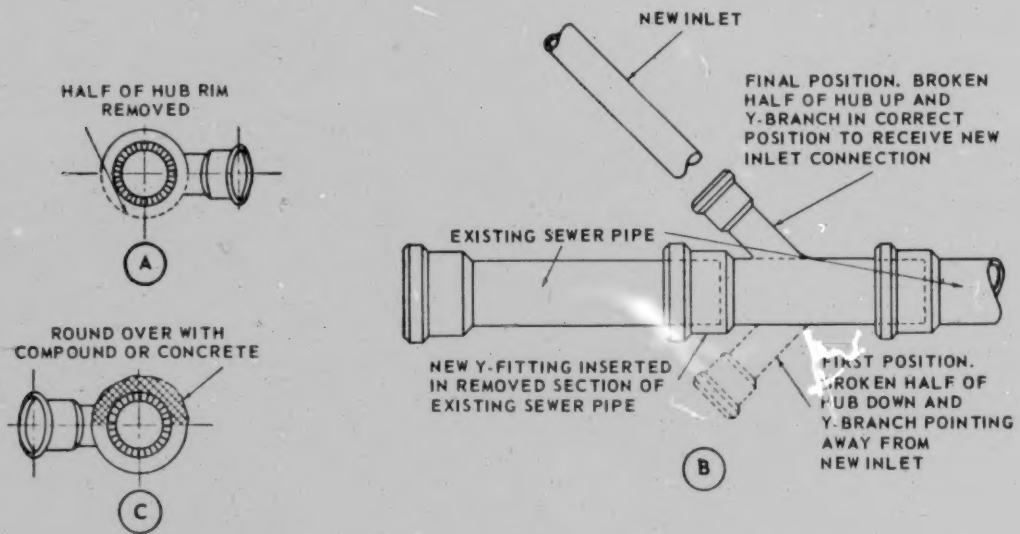

Figure 5-5. — Adding connections to outside vitrified clay sewer pipe.
2. Break half of the hub rim of the new Y-fitting, as indicated in view A, figure 5-5.
Y-fitting over the cut end of the existing pipe, with the Y-branch pointing away from the new inlet (see first position, view B of fig. 5-5).
4. Rotate the Y-fitting so that the broken half of the hub is up and the Y-branch is in correct position to receive the new inlet connection (see final position, view B of fig. 5-5).
5. Pour the joint carefully; round over the broken half of the hub with a liberal amount of concrete or mastic compound, as indicated in view C, figure 5-5.